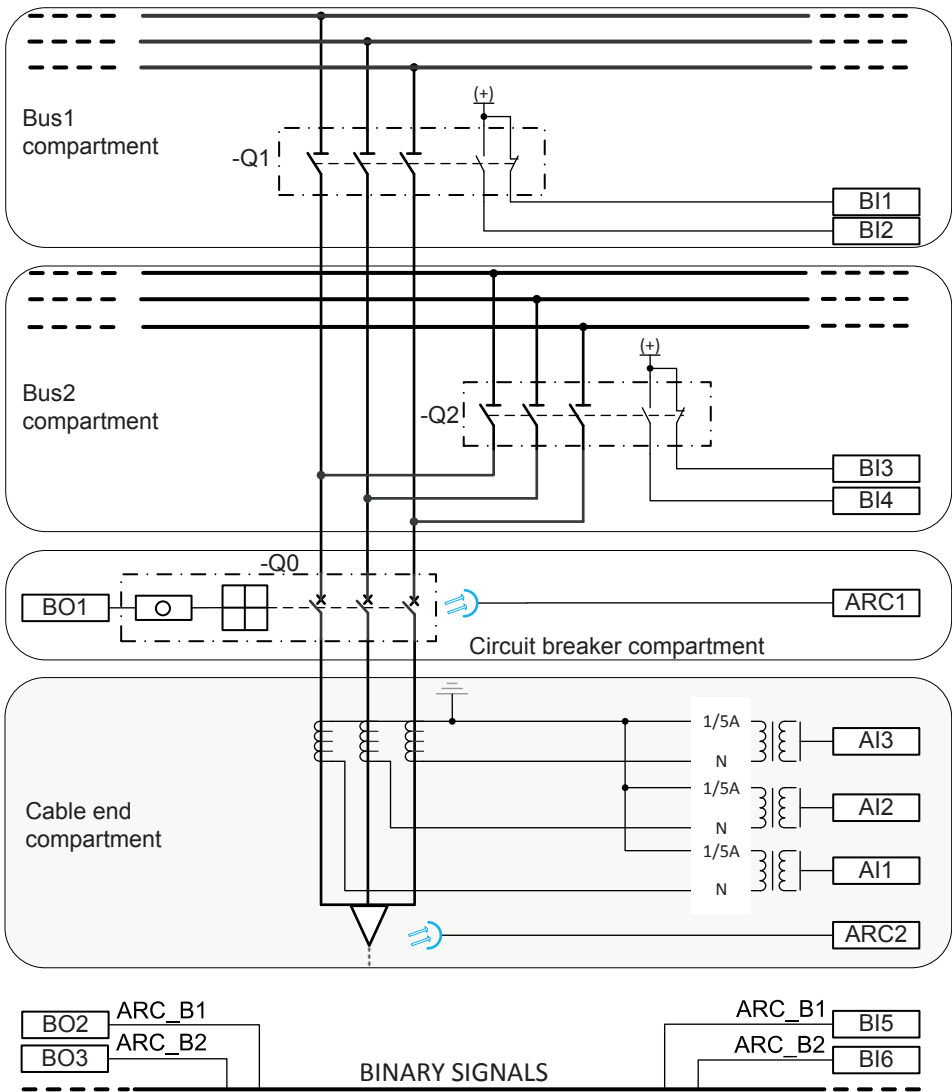

Figure 74: Connection diagram for the outgoing feeder +J2
Figure 74 shows the binary inputs (BI), binary outputs (BO), analog input (AI) signals and ARC inputs.